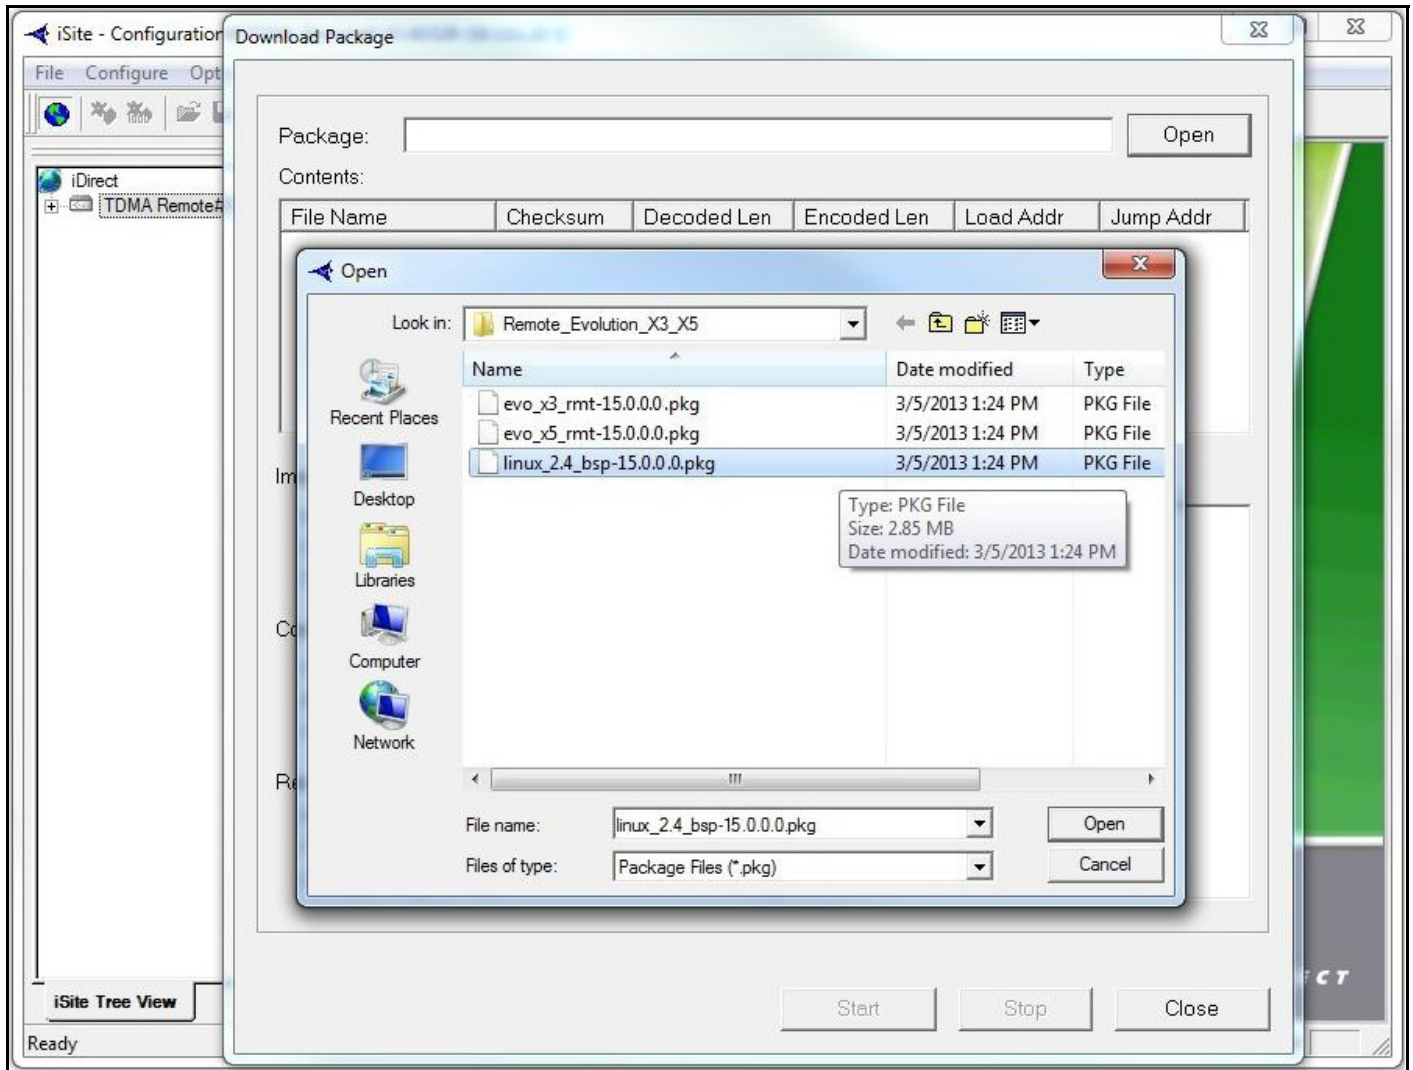

Figure 14. Selecting the BSP File
4. In the Open dialog box, open the folder with the applicable Satellite Router model number in the folder name. Figure 14 illustrates an example when commissioning the X3.